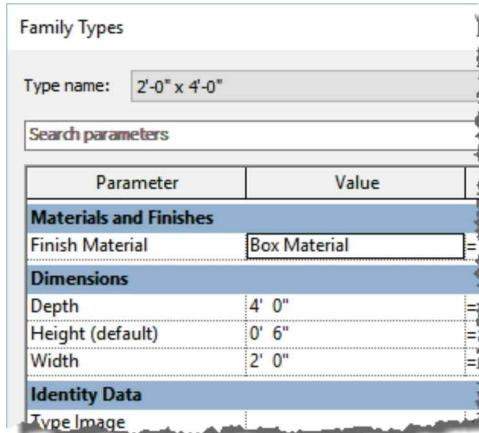

FIGURE 17-5A First type settings
- Using the *Name* drop-down list, switch back and forth between the two options; notice the *Parameter Values* change (Figures 17-5A and B).